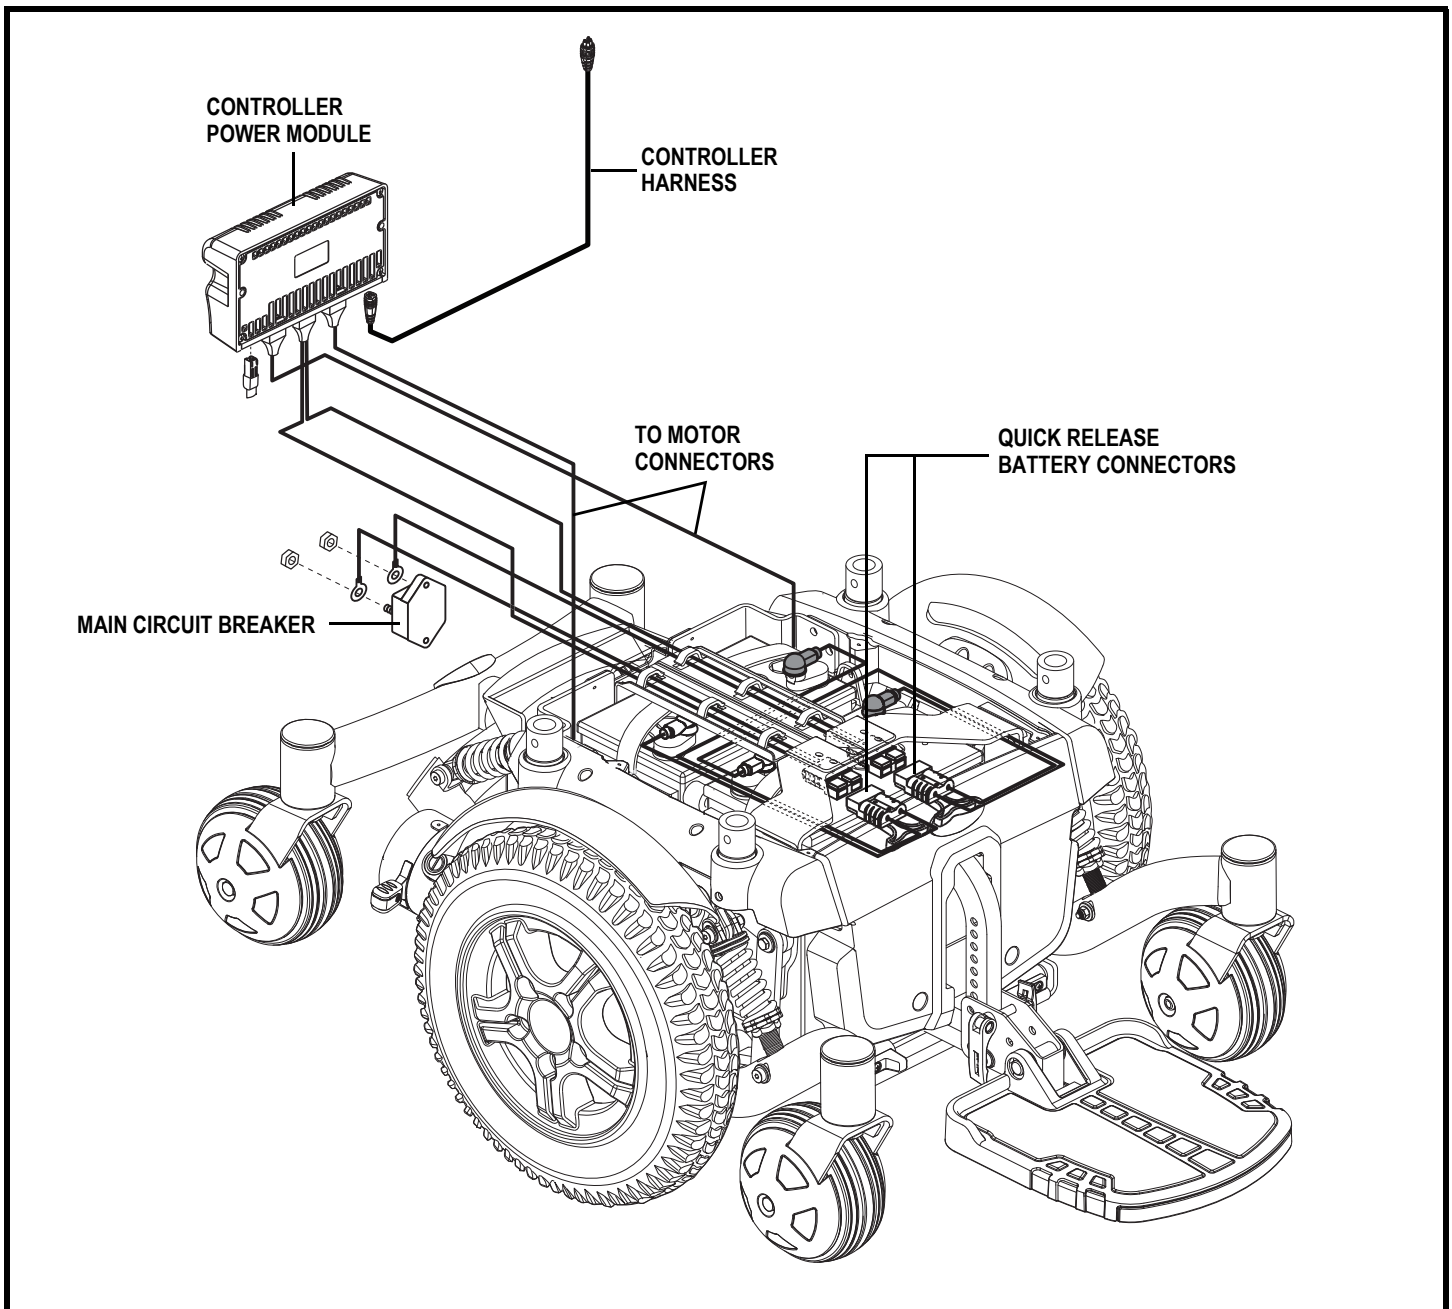

Figure 7. Quantum 600 Sport HD Electrical Components
The electrical components consist of the controller assembly, the batteries and the motors. The batteries, motors and controller power module (if equipped) are located on the power base assembly. The controller is located on the seat assembly. Connectivity between the controller and the motors, batteries and the battery charger is provided by one or more wiring harnesses. See figure 7.
6. Plug the controller connector into the power base. See figure 7.
4. Disconnect the controller connector(s) from the power base. **See figure 7.**